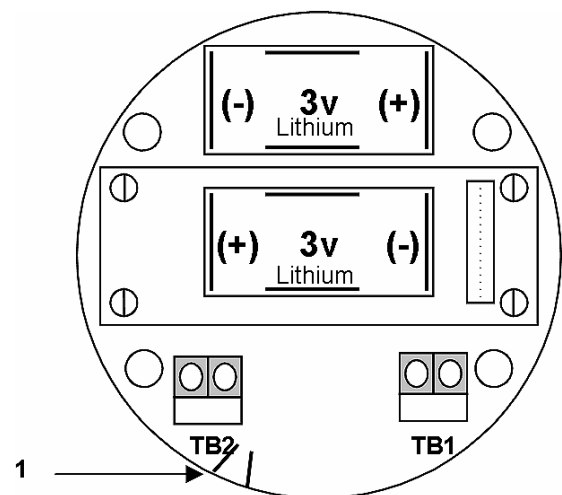

Figure 26
Step 1) Remove the canopy and locate the break-away tab (1) beneath the "PGM" button on the display and next to terminal TB2 on the bottom of the register (Figure 26).